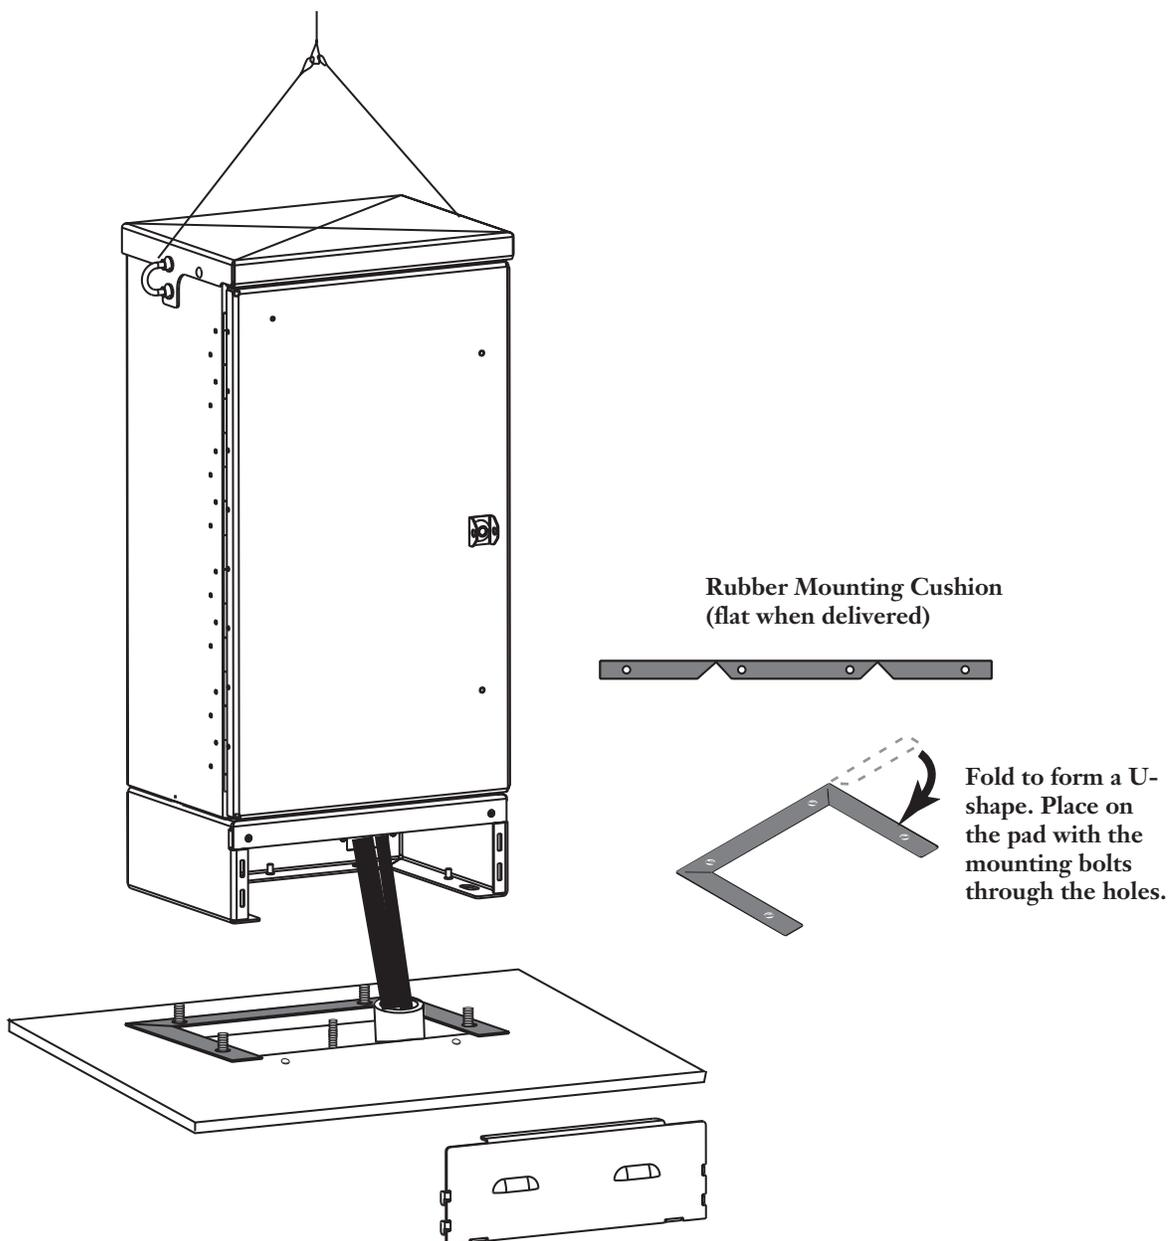

Figure 5 — Install Cabinet on Pad
- Step 8** Lower the unit onto the pad so that the mounting bolts in the pad are aligned with the holes in the cabinet's skirt. Place the rubber mounting cushion in the location where the cabinet will be mounted (Figure 5). Lower the cable hoist until the full weight of the cabinet rests on the pad.